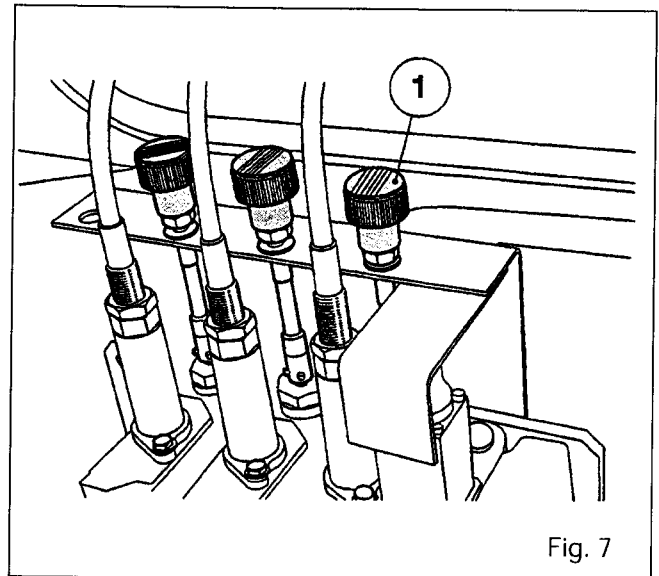

Fig. 7
Slowly turn the controller (1) (Fig. 7) towards the minimum stop (about 2 turns). **Q2** should drop to a minimum flowrate of between 0 and 5 l/mn. If the flowrate is not correct, see Section 9Q01 for its adjustment.